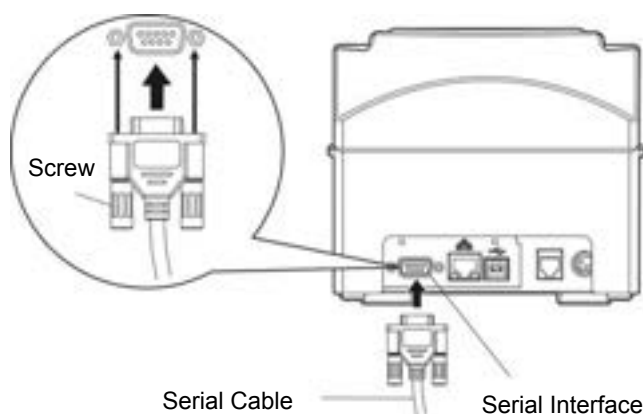

Figure 2-5 Connecting the serial cable
1. Make sure that the computer and the printer are both turned off, connect the serial cable to the serial interface connector of the printer and tighten the screws on both sides to make the cable fixed. (As shown in Figure 2-5)